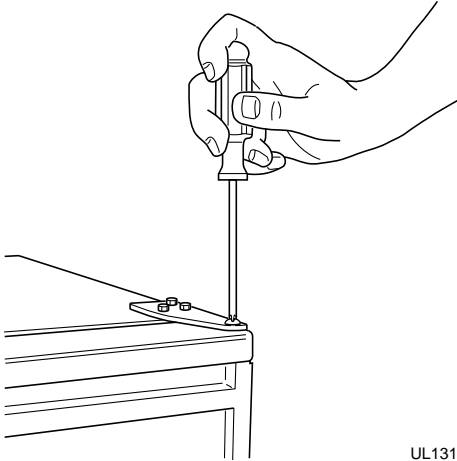

Figure 28
1. Remove top hinge screw pin (large Phillips head, see Figure 28). Hold door to keep it from falling.
10. Place door on bottom hinge pin and install upper hinge screw (see Figure 28).